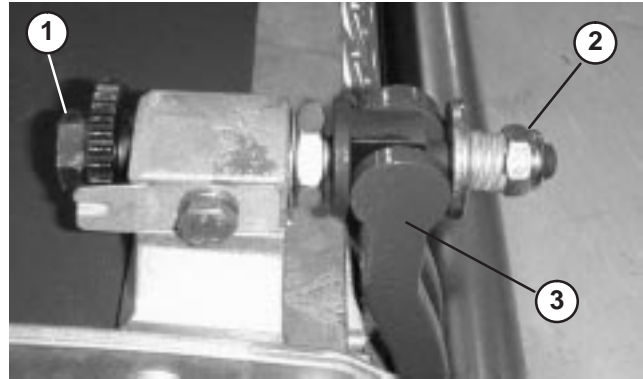

Figure 17
1. Turn bedbar adjuster screw, counterclockwise, to back bedknife away from reel (Fig. 17).
2. Back out the spring tension nut, until the washer is no longer tensioned against the bedbar (Fig. 17).